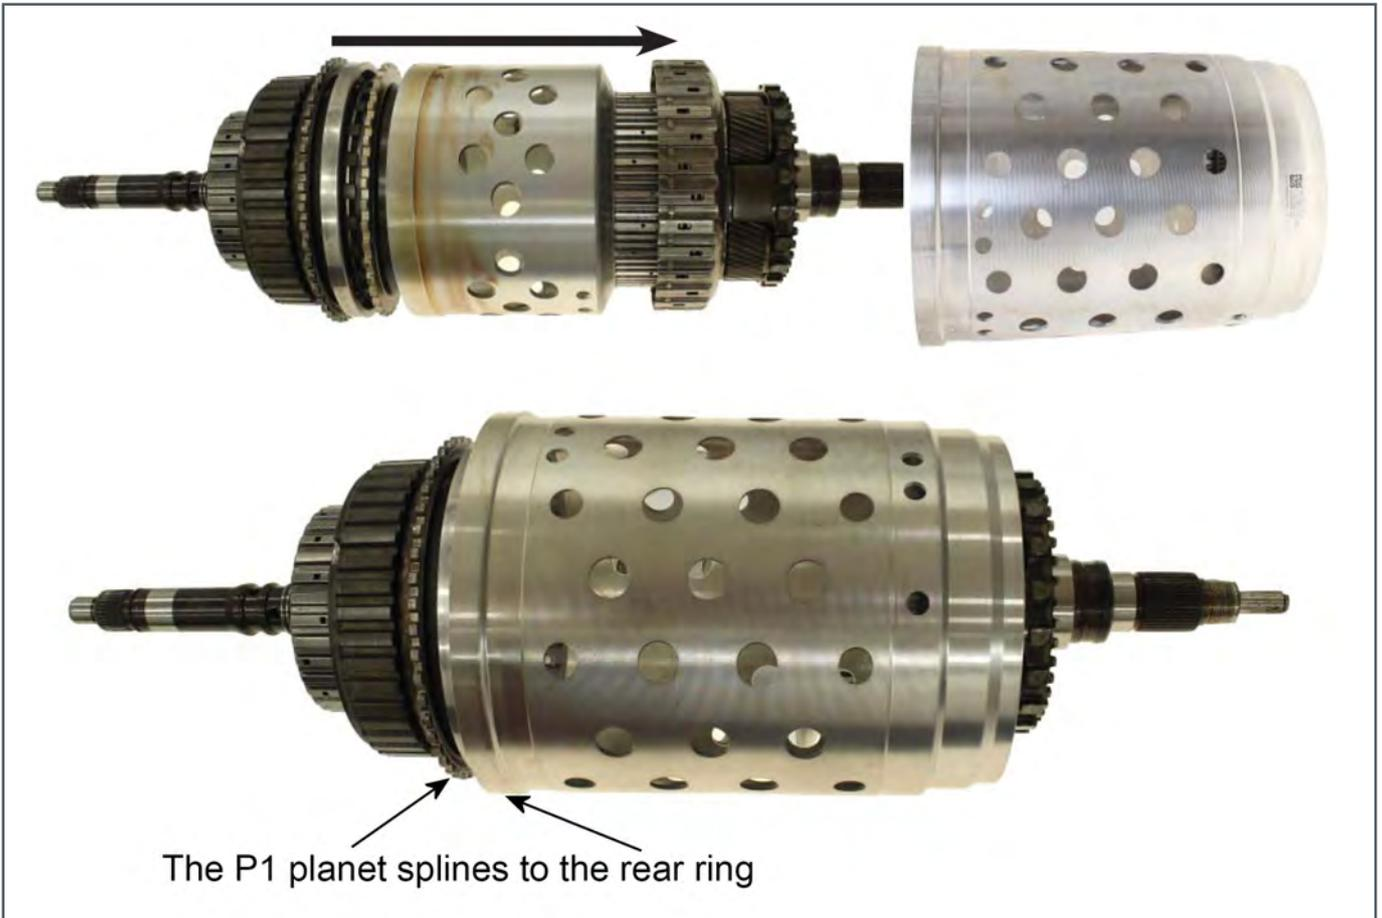

Figure 5: In 3rd, 4th and 5th gears the P1 planet drives the rear ring gear.
**The rear planet can also be driven by the rear ring gear, which can be driven by the P1 planet (figure 5).**
The rear planet can also be driven by the rear ring gear, which can be driven by the P1 planet (figure 5).